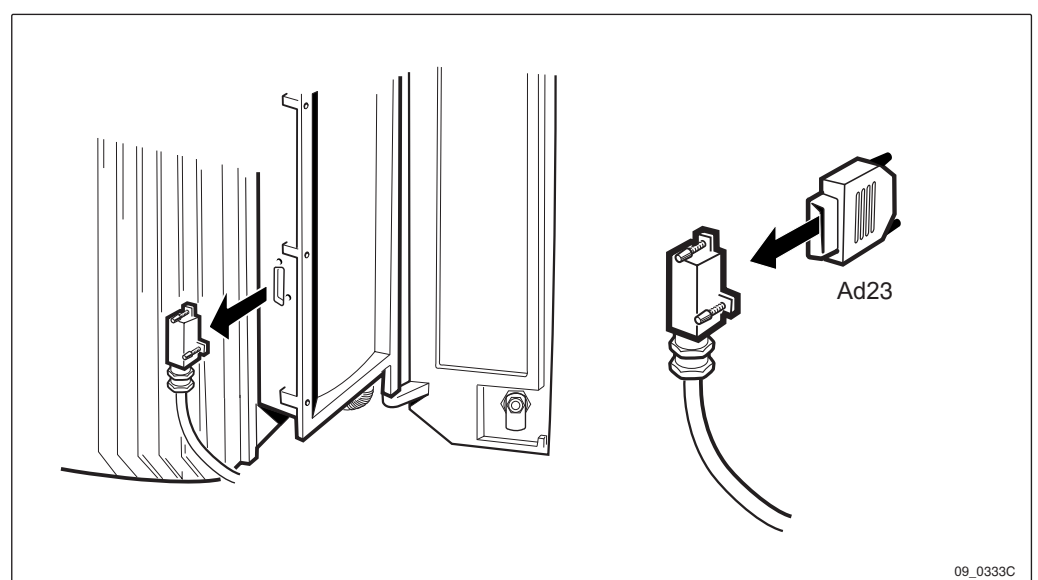

Figure 175 Mounting the adapter
15. Disconnect the adapter and reconnect the transmission network cable in the installation box, see Figure 175 on page 233.